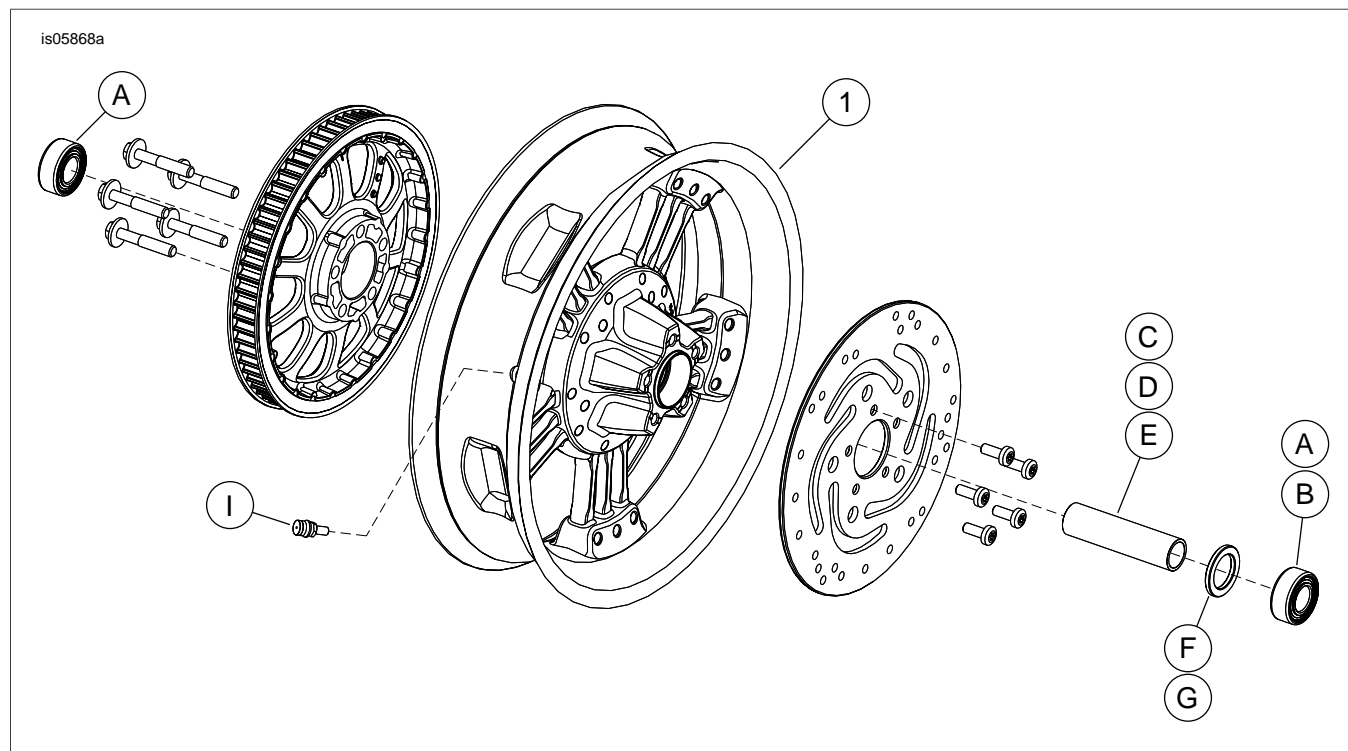

Figure 1. Service Parts: Rear Magnum 5 Wheel (17-inch shown)
These kits include the custom wheel only. See Figure 1 and Service Parts Tables.
2. See Figure 1. Install valve stem assembly (I) on wheel following the instructions in the appropriate service manual.